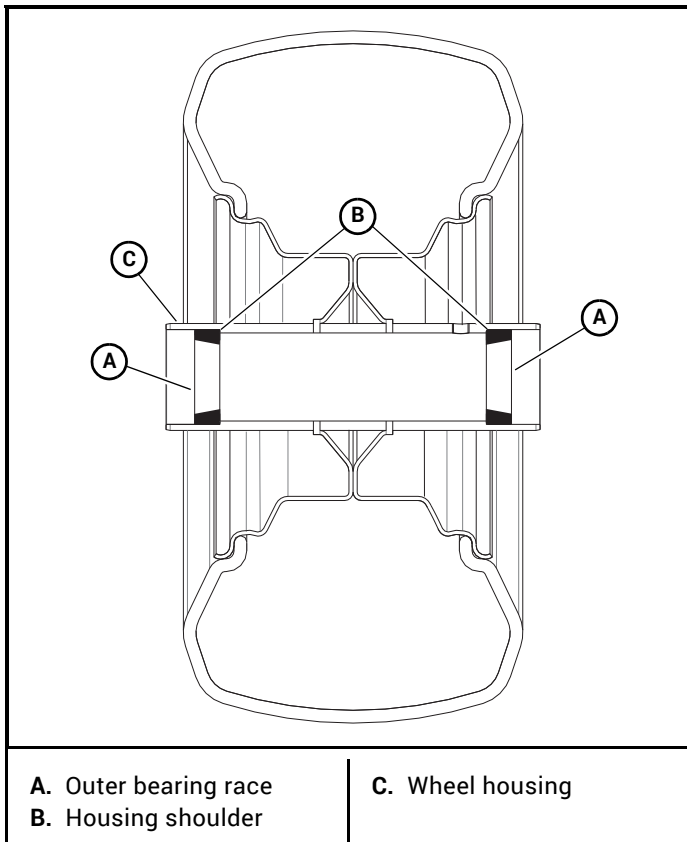

Figure 4-34
1. Press the new outer bearing races into the wheel housing until they are fully seated against the housing shoulder. Figure 4-34